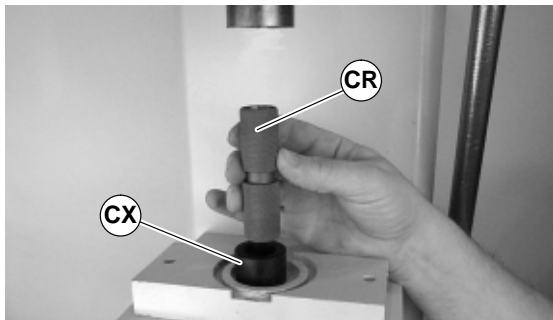

Figure 43
1. Orient bearing anvil/sleeve removal tool (CX of Figure 43), part number 25–09, with cavity facing up and place pulley (CR) onto tool.